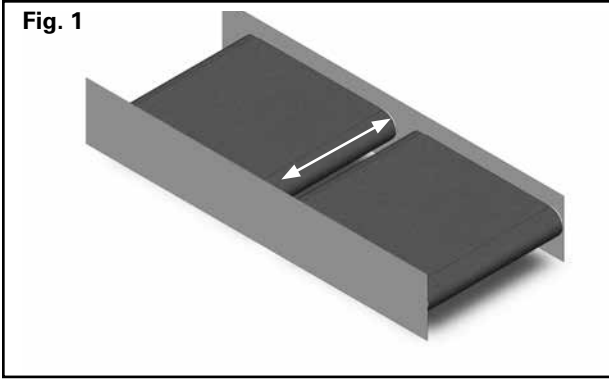

Fig. 1
1. Measure internal width of the structure at the desired installation location (**Fig. 1**).